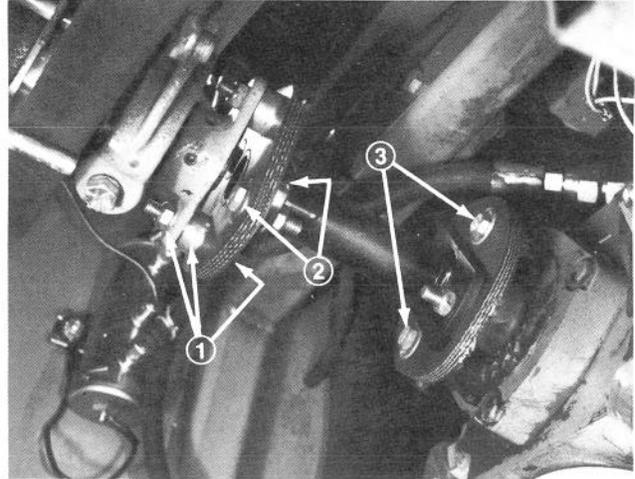

Figure 56
coupling assembly to engine pulley and two capscrews, flatwashers and locknuts securing coupler to transmission hub (Fig. 56). Slide assembly out after capscrews are removed.
4. If drive coupling assembly must be disassembled, separate rubber couplings from power shaft by removing four nuts, flatwashers, capscrews and spacers (Fig. 56).
1. Assemble rubber couplings and power shaft with capscrews, spacers, flatwashers and nut (Fig. 56).
2. Position drive coupling assembly between engine and transmission hub, and align the holes. Secure drive coupling between hubs with capscrews, flatwashers, rubber washers and nuts on engine end; capscrews, flatwashers and nuts on pump end (Fig. 56). Tighten the capscrews alternately and evenly to prevent distortion of the rubber coupling.